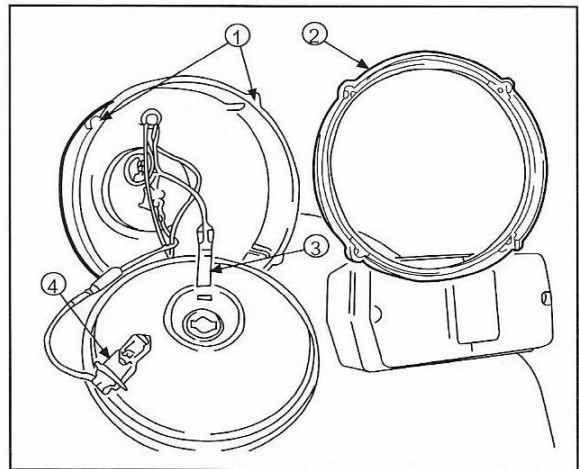

Fig. 124
1. Remove the four screws (1, Fig. 124) and the rim (2).
3. Remove the spring clip (3) from the back of the bulb holder, then remove the bulb (4).